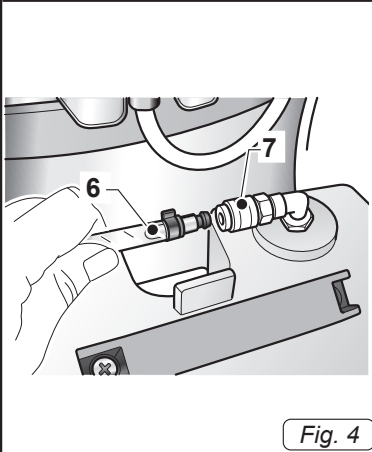

Fig. 4
- Connect the (6 Fig. 4) detergent suction hose to the quick coupling (7 Fig. 4); to release it push the quick coupling (7 Fig. 4) inwards.